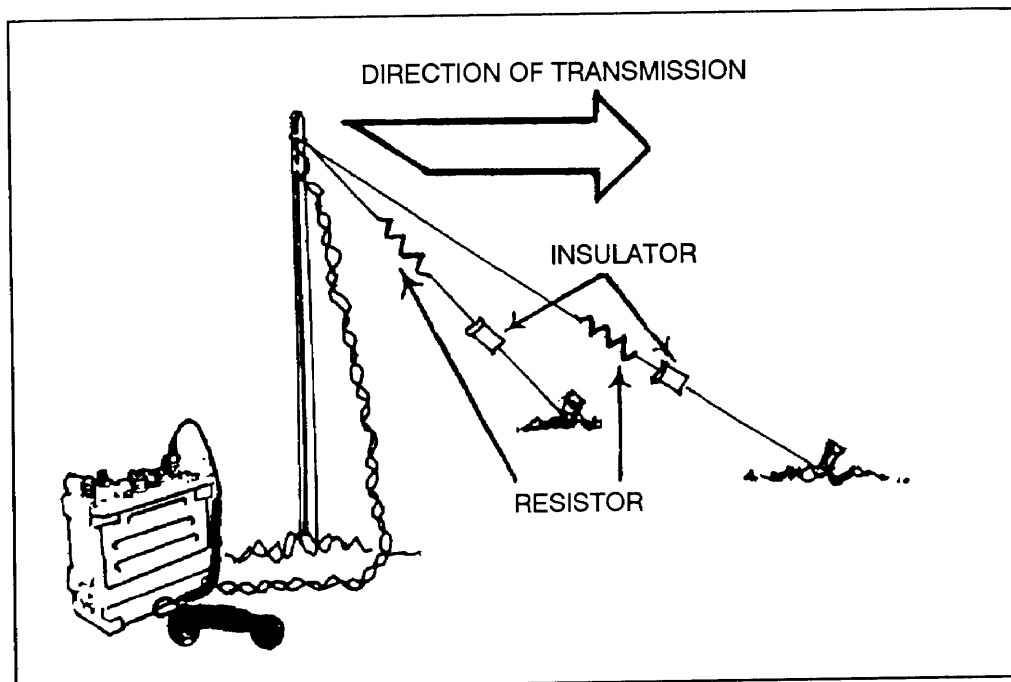

Figure D-12. Terminated sloping Vee antenna.
(1) Along-wire antenna is made directional by placing a terminating resistor at the distant station end of the antenna. The terminating resistor should be a 600-ohm noninductive resistor capable of absorbing at least one-half of the transmitter power. Terminating resistors are part of some radio sets. They can also be locally made, using supply system parts (National Stock Number 5905-00-764-5573, 100-watt, 106-ohm resistor).
(2) Building a long-wire antenna only requires wire, support poles, insulators, and a terminating resistor (if directionality is desired). The only requirement is that the antenna be strung in as straight a line as the situation permits. The height of the antenna is only 15 to 20 feet above ground so that tall support structures are not required.
i. **Sloping Vee.** The sloping Vee is a short- to long-range sky-wave antenna that is reasonably simple to build in the field (Figure D-12). The gain and directivity of the antenna depend on the leg length. For reasonable performance, the antenna should be at least $1/2$ wavelength long. To make the antenna directional, terminating resistors are used on each leg on the open part of the Vee. The terminating resistors should be 300 ohms and be capable of absorbing one-half of the transmitter's power output. These